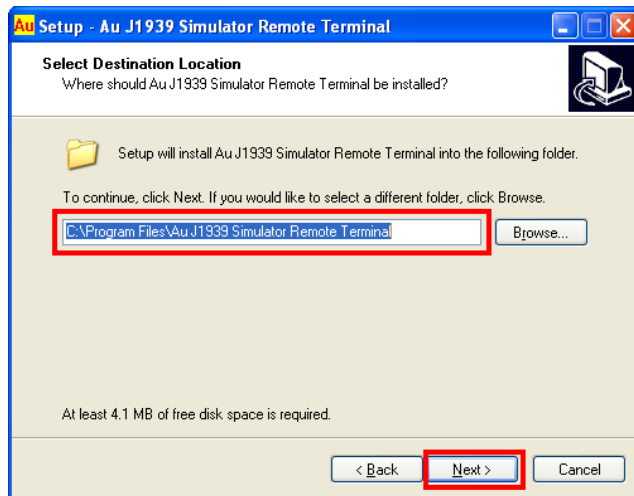

Figure A-5
5. “Select Destination Location” window pop up, use the default folder, and click “Next” to continue (figure A-5).